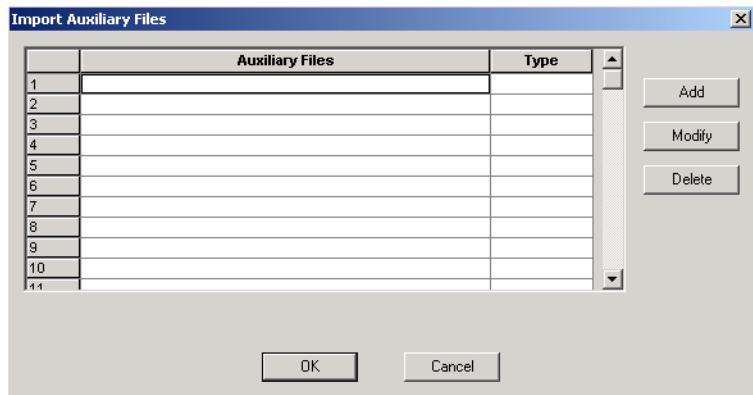

Figure 2-7. Import Auxiliary Files Dialog Box
1. **From the File menu, click *Import Auxiliary Files*.** The Import Auxiliary Files dialog appears, as shown in Figure 2-7.